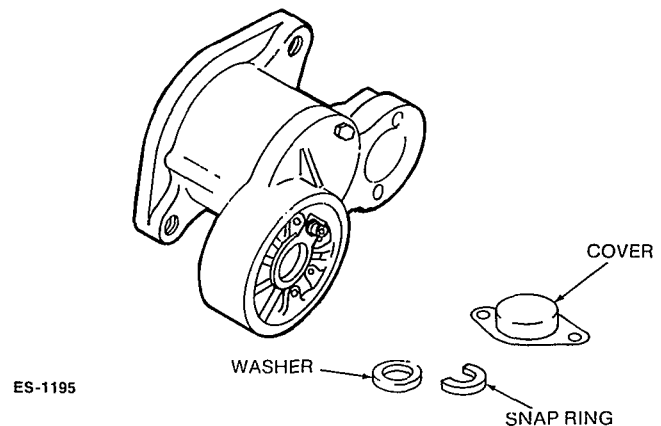

FIGURE 36b. REMOVING SNAP RING AND WASHER
5. Remove cover assembly, (snap ring and washer) from the pinion shaft (Figure 36b).